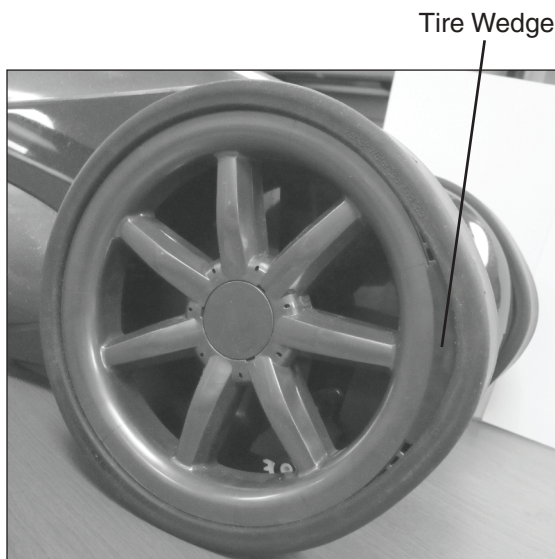

Figure 21.
Note: Both wedges should be installed horizontally in line with each other. If they are not in line with each other they may cause the cleaner to have difficulty with the transition angle. This is important for proper cleaner operation. **See figure 21.**
2. Push the wedge towards the nose of the cleaner body until the insert is securely seated behind the lip of the rubber tire. **See figure 21.**